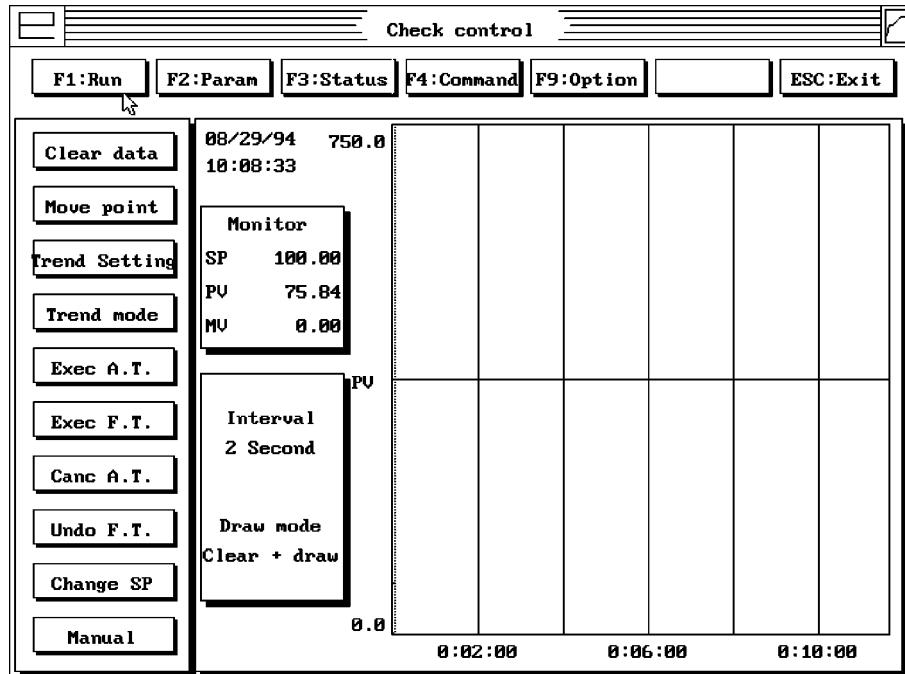

Figure 13
2. Select **Exec. F.T.** from the menu on the left side of the screen (Figure 13).